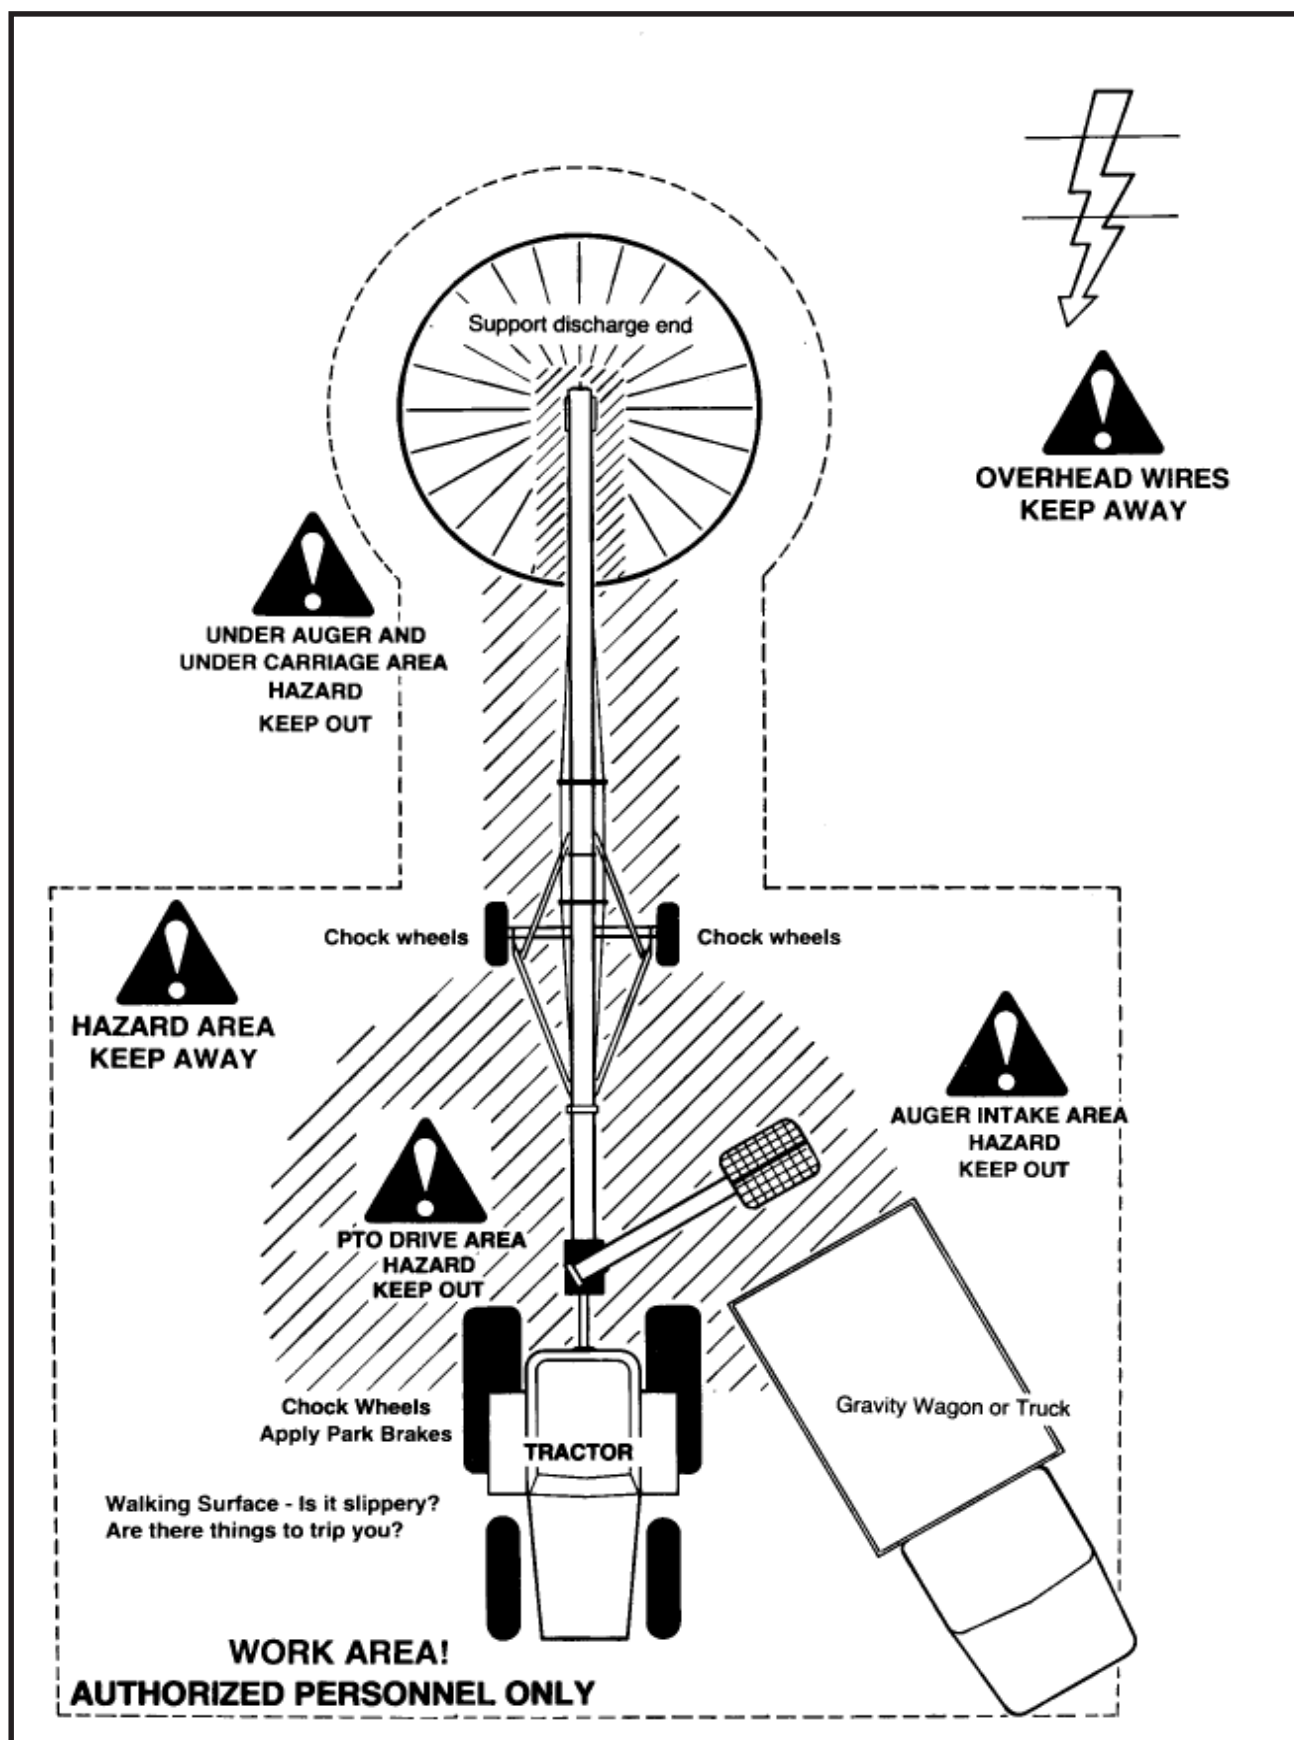

Figure No. 1
- Keep children and untrained people away from auger work area (see **Figure No. 1**). The area around the auger is not safe for untrained personnel and especially not safe for children.